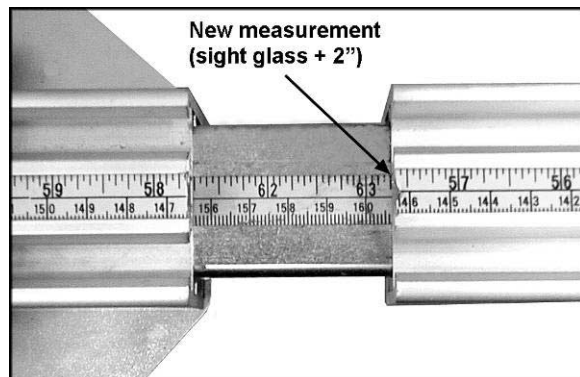

Figure 32
5. Add 2" to this measurement and slide out the extension until the new measurement is read at the end of the fixed fence (Figure 32). NOTE: Be careful to set this correctly, because the scale on the sliding fence reads opposite the scale on the fixed fence.